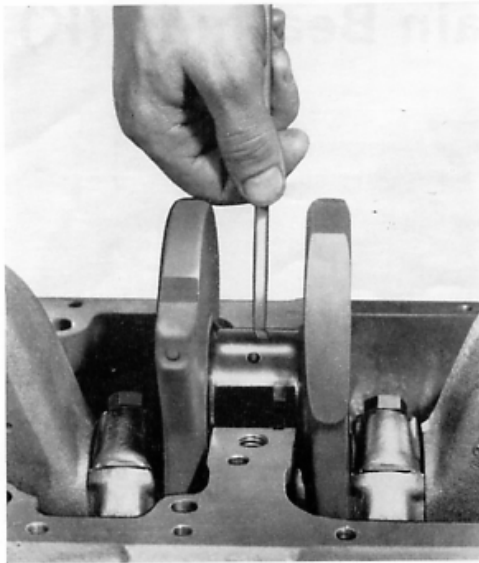

Fig. K.2.
4. Remove top half of bearing shell by pushing it, on the opposite side to the one having the locating tag, with a suitable strip of wood and rotating it on the crankshaft as shown in Fig. K.2.